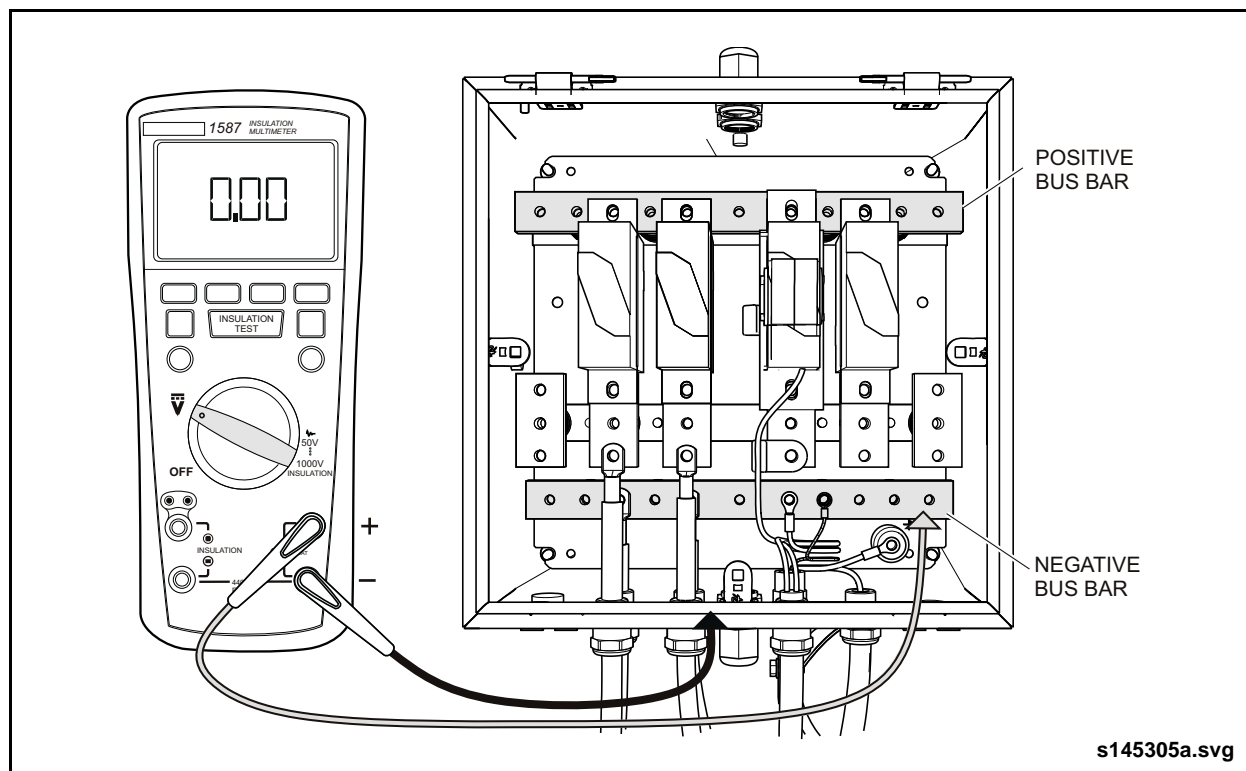

Fig. 12: High Voltage Verification - 3
- c. Measure from the ground bar to the grounded enclosure or roof rack structure. See “Fig. 12: High Voltage Verification - 3” on page 10.